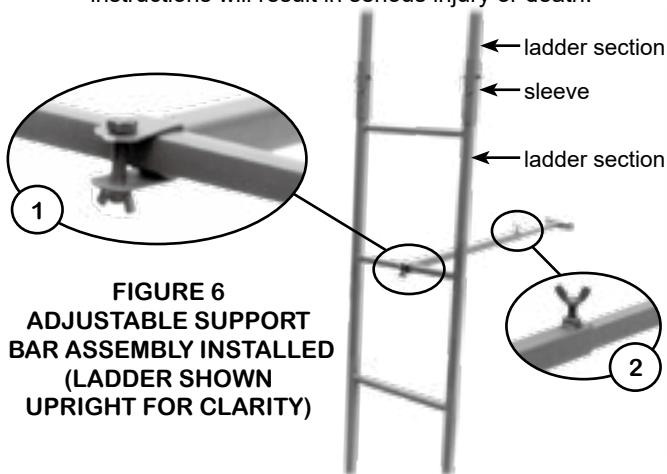

FIGURE 6
STEP 3: Lay the assembled ladder stand face down on the ground with the feet of the lower ladder section 3 or 4 feet (91cm and 122cm) away from the base of the tree. Locate the adjustable support bar assembly (T) (refer to Figure 1). Install the adjustable support bar assembly (T) to the fifth ladder rung from ground level (as shown in Figure 6). Bolt the bar to the welded tabs using one (1) 8mm x 1-5/8" bolt and one (1) wingnut (as shown in Figure 6①). Tighten securely. Make certain the v-bar portion of the adjustable support bar assembly (T) is extended away from the ladder sections. Note: The adjustable support bar assembly (T) adjusts for length by loosening the wingbolt (as shown in Figure 6②) and sliding the assembly in or out to accommodate length requirements. Once adjustments have been made, you must retighten the wingbolt securely prior to use.